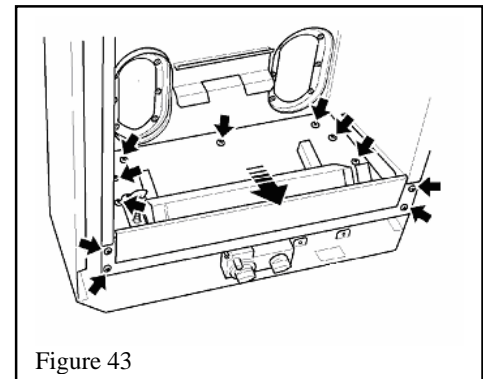

Figure 43
1. Detach the burner module by removing 11 screws. See figure 43.